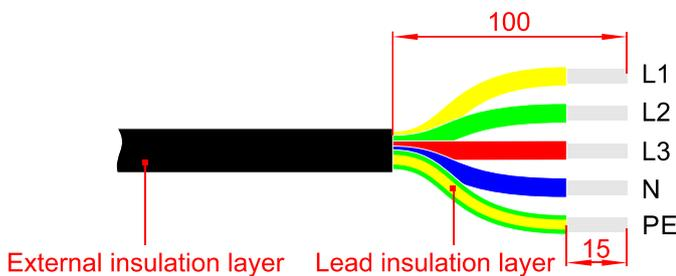

Figure3-25 Strip the AC output wire (unit: mm)
Step 1 Strip the external insulation layer of AC wire for about 100mm, strip the inner lead insulation layer for about 15mm, as shown in Figure3-25.